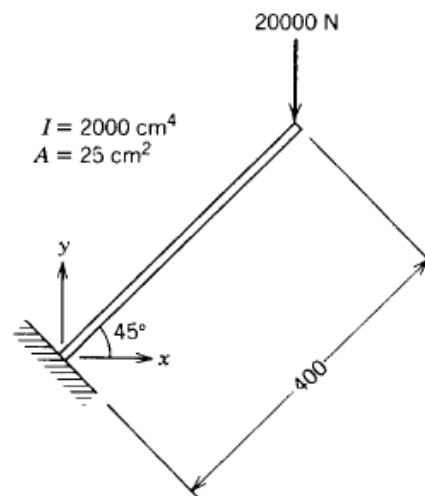

Figure P3.7
7. Calculate the displacement at the free end of the inclined beam shown in **Figure P3.7**. Repeat the problem when the applied load is parallel to the x-axis and has a magnitude of 15000 N.